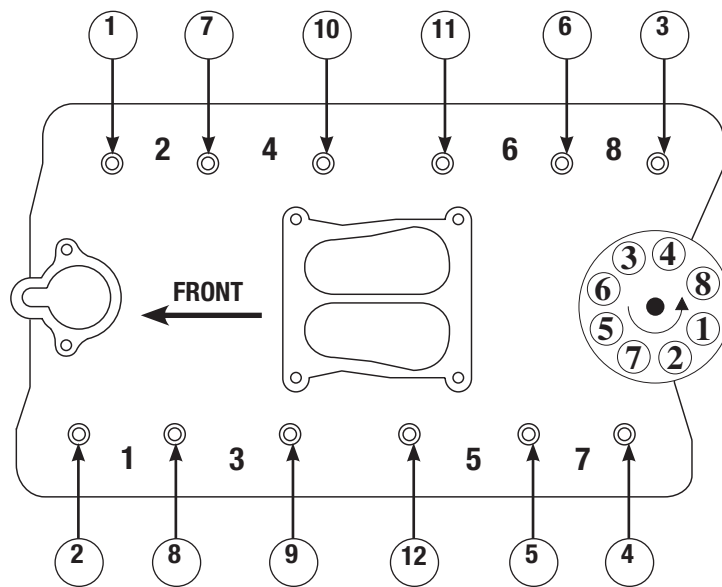

Figure 1 - 400-455 c.i.d. Oldsmobile Intake Manifold Bolt Tightening Sequence and Firing Order
5. Torque all of the manifold bolts in two steps by the sequence shown in **Figure 1** to 25 ft/lbs.
NOTE: The twelve (12) included washers are for use between the intake manifold and the provided intake manifold bolts. The four (4) 12-point bolts are for use on bolt locations 5, 6, 7 and 8. See **Figure 1** for hole locations.